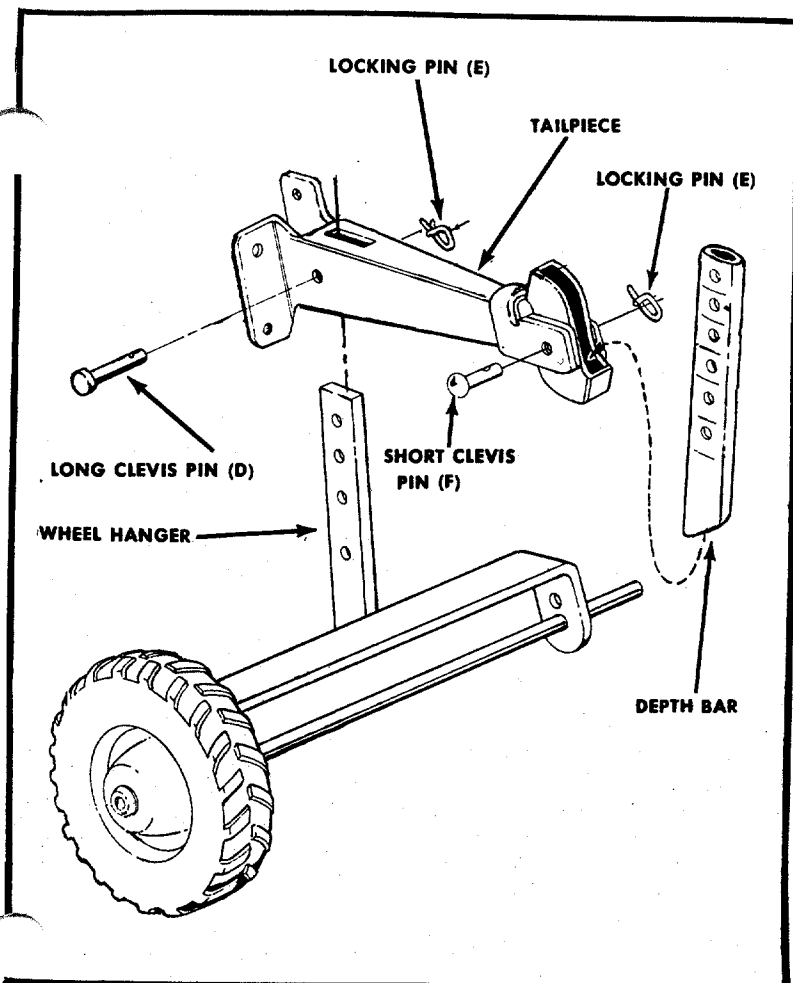

FIGURE 3. WHEEL HANGER AND DEPTH BAR
Step 3. Place the wheel hanger into the tailpiece and secure with the long clevis pin (D) and locking pin (E). See figure 3.
Refer to figure 3.